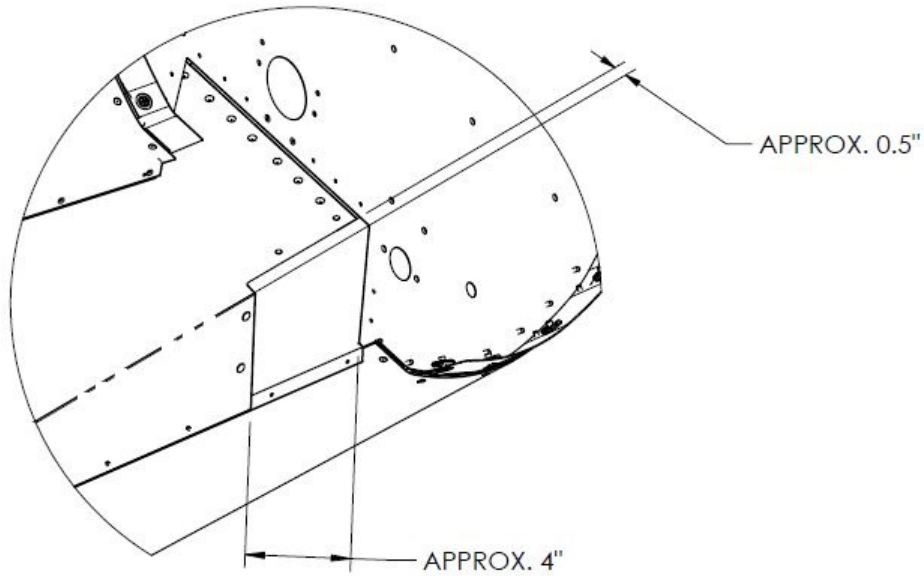

FIGURE 12A – Access Hole
- 35.** Cut out access hole. Ensure proper fit of SC53107-001, Boot Cowl Hatch. Reference Figures 12A and 12B. Radius the upper, aft corner, and deburr all edges.